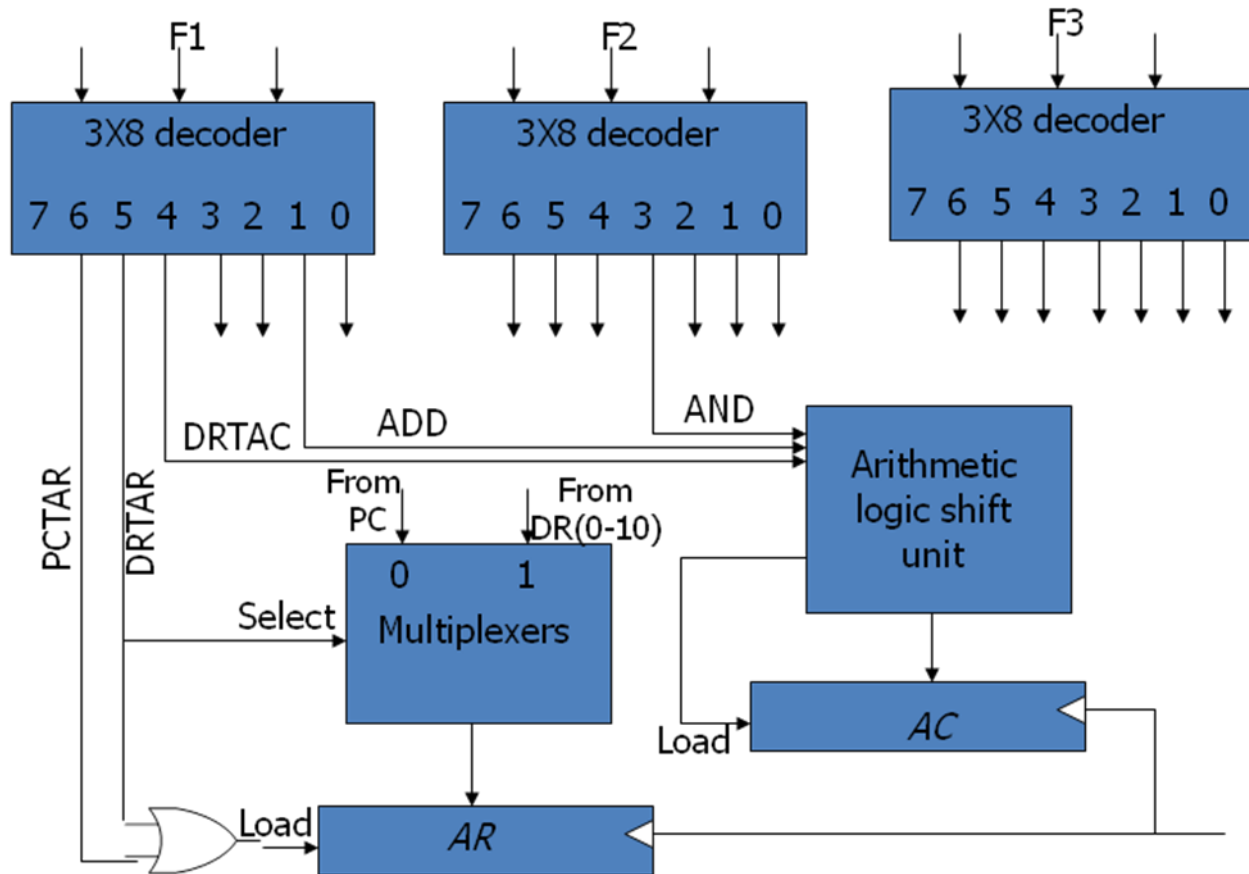

Fig 3-11: Decoding of Microoperation fields
- Fig. 3-11 shows the three decoders and some of the connections that must be made from their outputs.